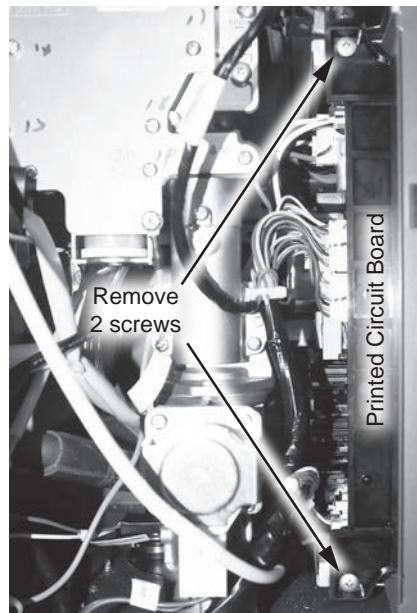

Figure 100 - Removing PCB screws
- 18** Locate the Printed Circuit Board (PCB) on the right side of the water heater. Use a Phillips screwdriver to remove the two screws securing the PCB. Place screws aside in a safe place for reinstallation. See Figure 100.